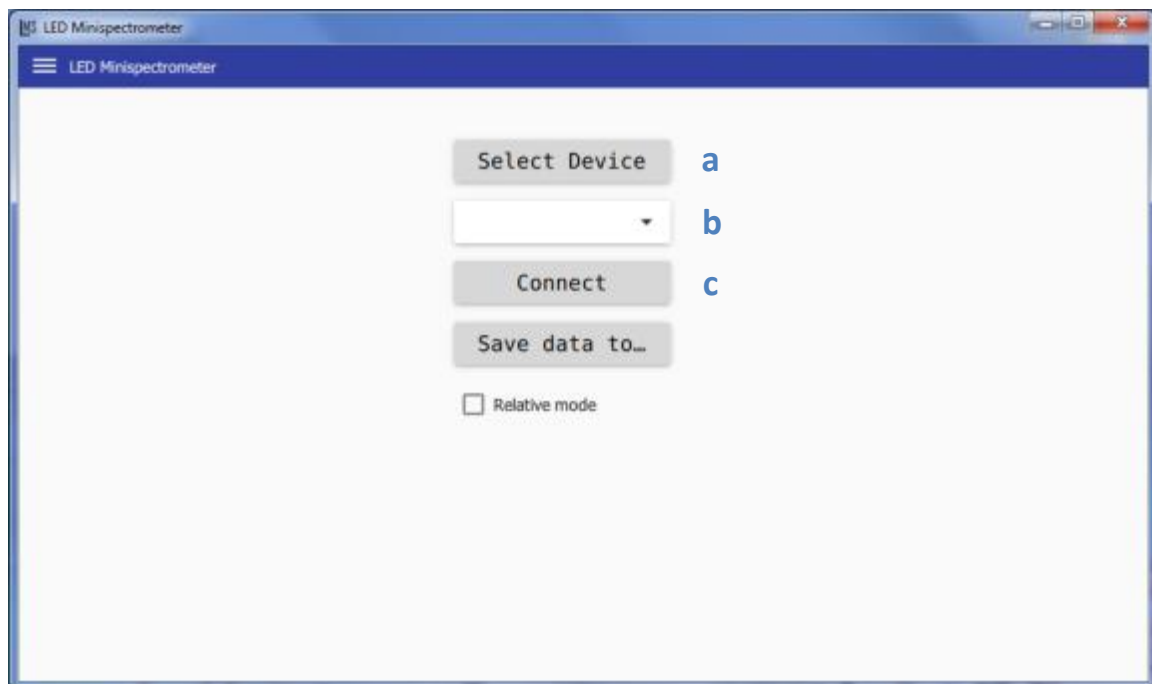

Fig.1. Window with program settings.
3. Run “LEDMinispectrometer” software. Your PC will display the window with initial program settings, corresponds to the Menu option “Settings” (fig.1).
- 3.1 Click “Select Device” button (fig.1, a).
- 3.2 Choose the available device from the drop-down list (fig.1, b) (the number of the visual com-port will be displayed).
- 3.3 Click “Connect” button (fig.1, c).